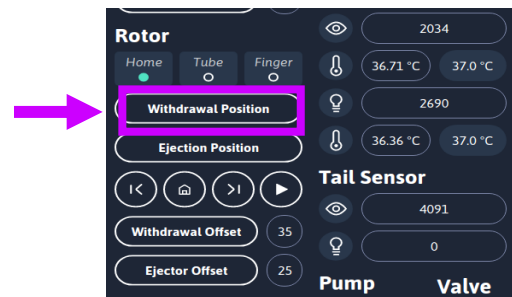

Figure 10
9. Press the Withdrawal Position Button highlighted in Figure 10. When the numerical keypad is visible, select the number 1.